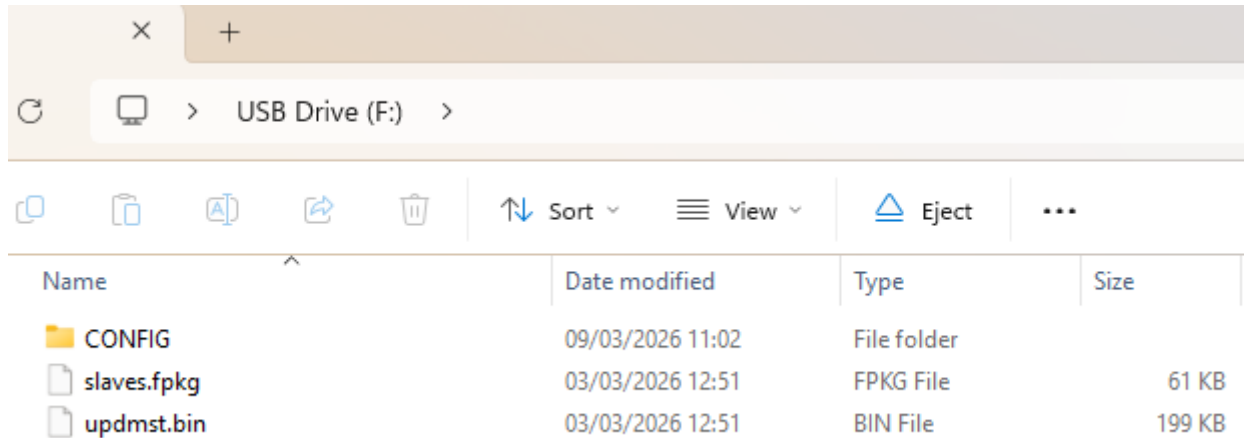

Figure 46 Content of the SD card when manually updating the firmware of both Data Logger and Acquisition board
3. Paste the “updmst.bin” and “slaves.fpkg” files into the SD card as shown in Figure 46